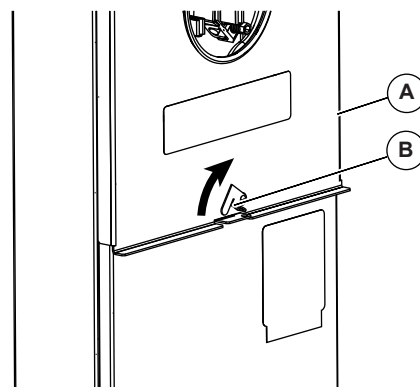

Figure 3-1. Rotate Latch
1. See Figure 3-1. First, remove outer top cover (A):
- a. Rotate latch (B) clockwise until clear of latch hole.